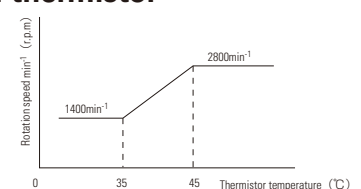

Fig. 6
(1) The fan selected was a 109P1212T4H12 thermal speed controlled fan having a performance equal to that of conventional fans at high speed.
(2) The relationship between the temperatures of important components and those of the cooling fin can be measured with varied loads on the equipment and varied air flows of the fan. Since a correlation was determined, the thermistor can then be placed on the cooling fin, one of the important components.
(3) Next, in view of the thermal design conditions of the equipment, the fan is set to high speed at an ambient temperature of 30°C and an equipment load of 100%.
(4) At an ambient temperature of 30°C and an equipment load of 100%, the temperature of the cooling fin was 48°C and the surface temperature of the thermistor placed on the cooling fin was 45°C when the fan was running at high speed. It was therefore decided to add a 1.5 K Ω resistor in series with the thermistor according to Table 1. In this case, the thermistor temperature is 35°C and the fan runs at low (see Table 1 and Fig. 6).
(5) Test results as installed on equipment: The thermal speed controlled fan displayed its full effect, thus being greatly advantageous in noise reduction. The ambient temperature during the test was 29°C.